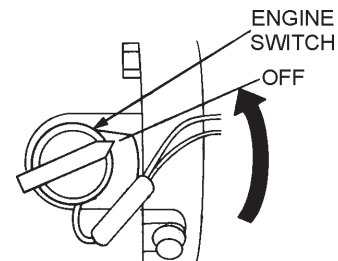

Figure 18. Engine ON/OFF Switch (OFF)
- After the engine **cools**, turn the engine ON/OFF switch to the "OFF" position (Figure 18).